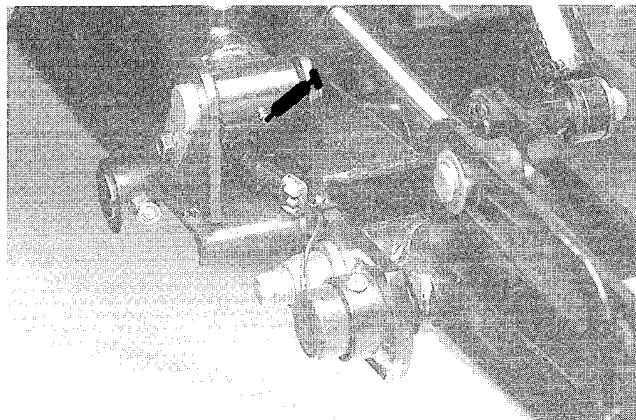

Figure 29
cylinder (1), (Fig. 29); Rear lift cylinder pivot (2), (Fig.